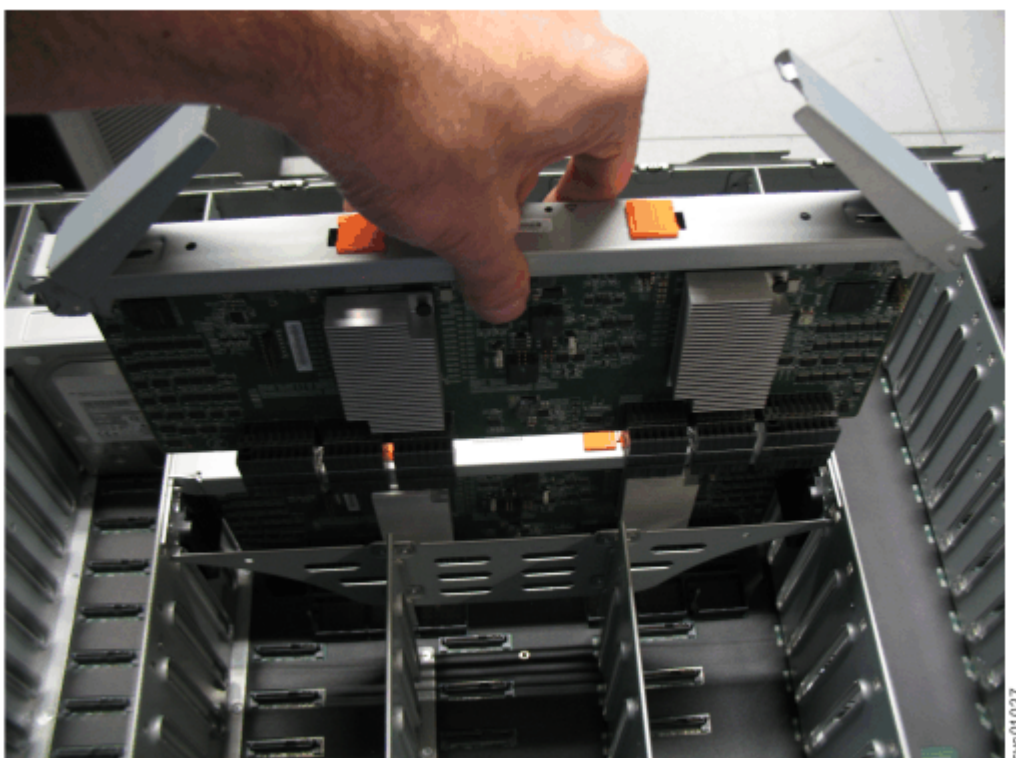

Figure 136. Remove the secondary expander module
4. Lift the secondary expander module carefully out of the enclosure, as shown in Figure 136 on page 183.